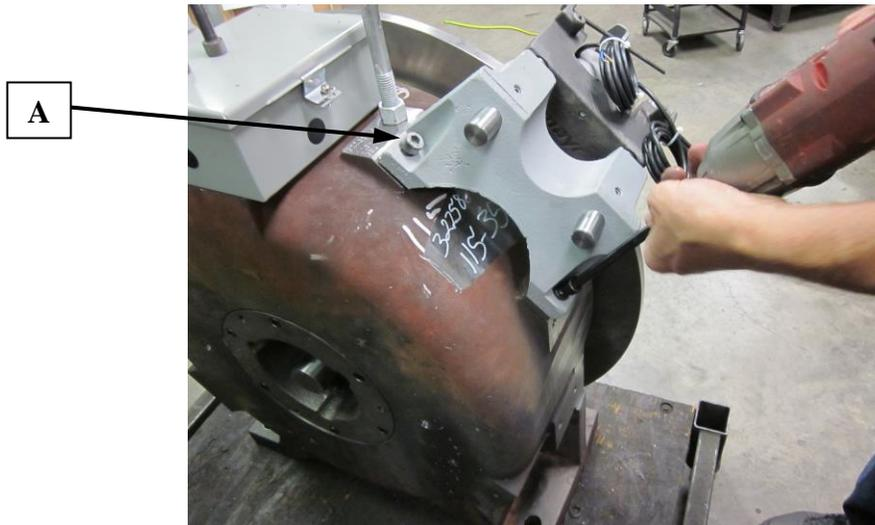

Figure 7
- Loosely install top bolt, “A” through brake base to hold brake assembly on housing. Figure 7.